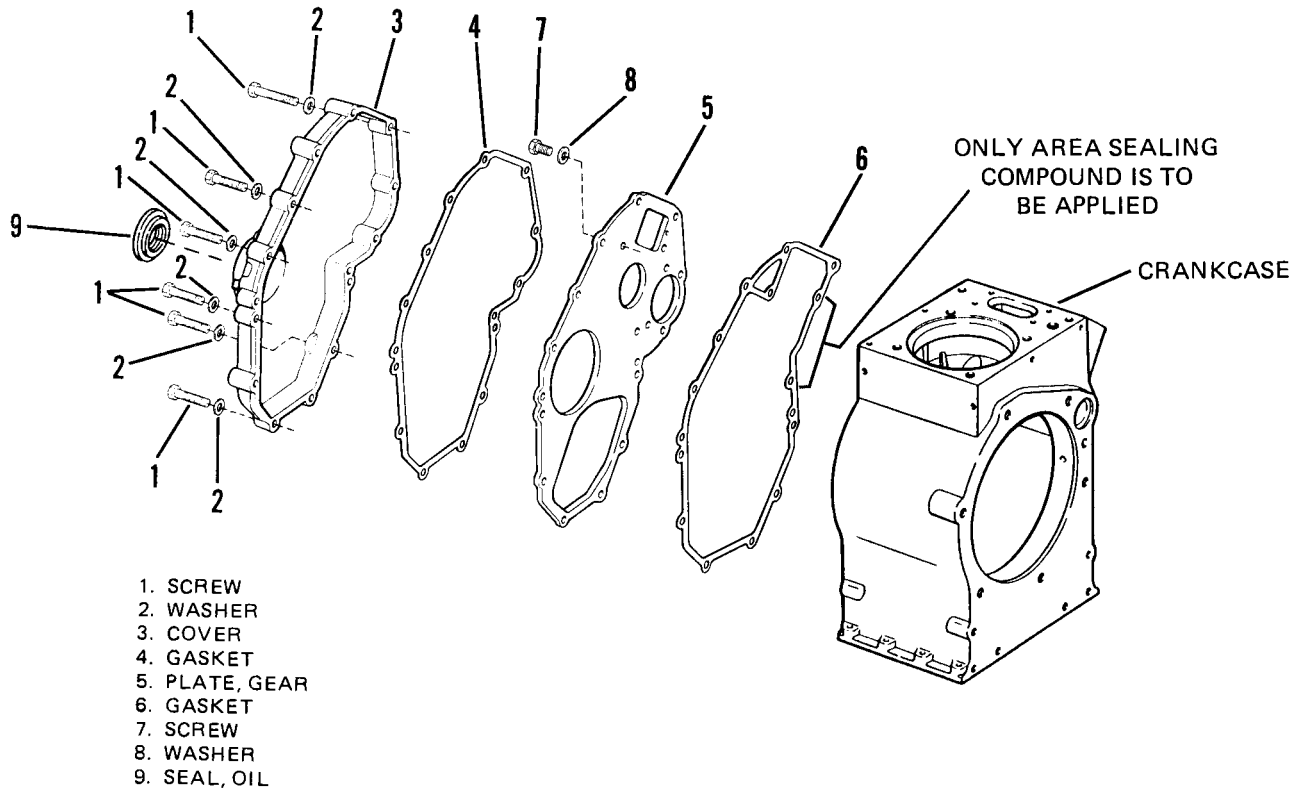

Figure 7-26. Gear Cover and Seal.
- (1) Remove governor, refer to TM 05926B/06509B-12/TM 5-6115-615-12/NAVFAC P-8-646-12/TO 35C2-3-386-31 manual, paragraph 4-44.
- (2) Remove lifting eyes and wrappers, refer to paragraph 7-6 a, Removal.
- (3) Remove air scroll, sound shield, and flywheel, refer to paragraph 7-10.
- (4) Remove stator and air scroll back plate, refer to paragraph 7-11.
- (5) Remove screws (1, Figure 7-26), washers (2), cover (3) and gasket (4).
- (6) Removal of gear cover back plate (5) and gasket (6) requires removal of camshaft (refer to paragraph 7-16), and the oil pump (refer to paragraph 7-14).
- (7) Remove screw (7), washer (8), cover back plate (5) and gasket (6).
b. Disassembly. Front oil seal (9) is not removed unless there is evidence of the leakage of oil.
Apply a bead of sealing compound (Table 2-2, item 10) in area shown in Figure 7-26 to both sides of gasket (6) before installation.
- (1) Install cover back plate (5) with gasket (6) and secure with screw (7) and washer (8).
- (2) Install camshaft, refer to paragraph 7-16.
- (4) Install oil pump, refer to paragraph 7-14.